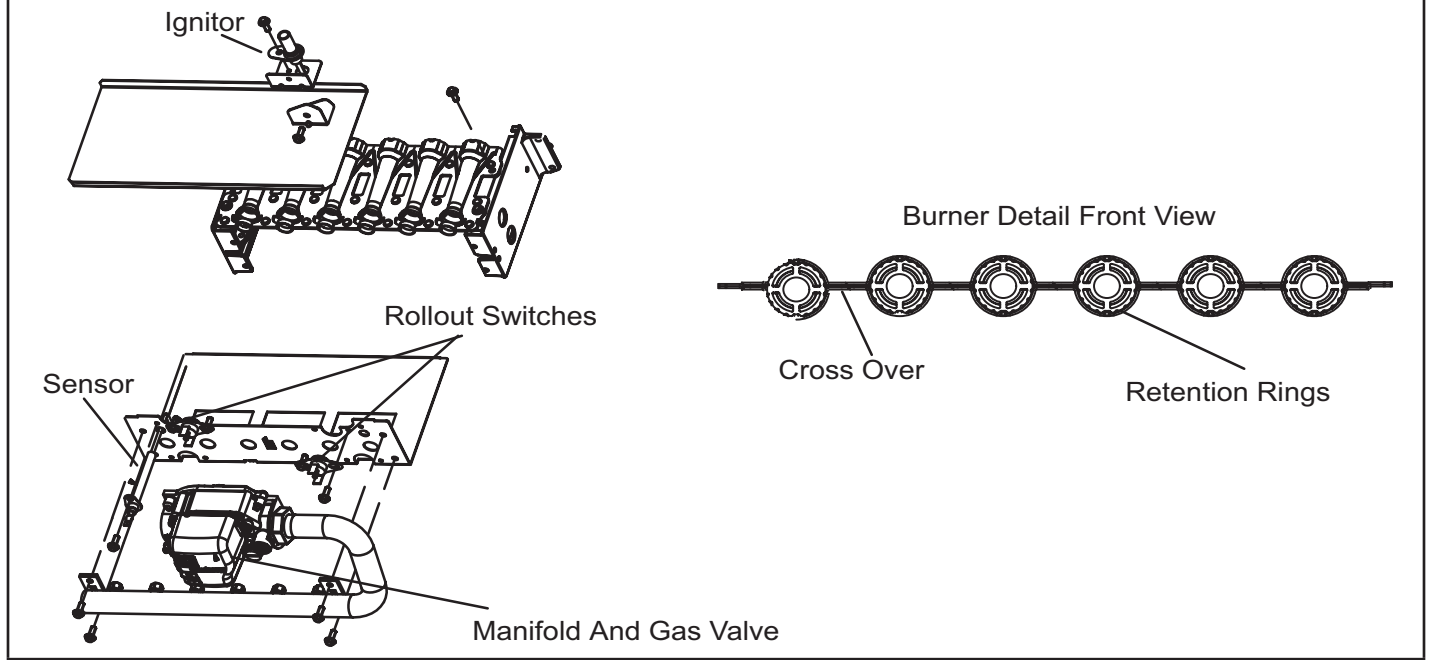

FIGURE 35
- 4 - To clean burners, run a vacuum cleaner with a soft brush attachment over the face of burners. Visually inspect inside the burners and crossovers for any blockage caused by foreign matter. Remove any blockage. FIGURE 35 shows burner detail.